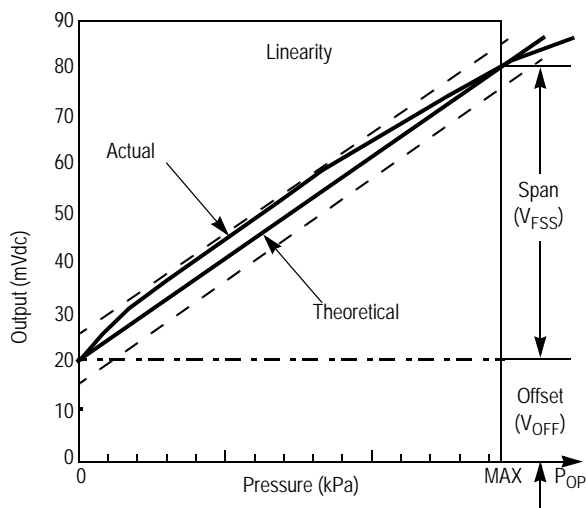

Figure 3. Linearity Specification Comparison
Linearity refers to how well a transducer's output follows the equation:  $V_{\text{out}} = V_{\text{off}} + (\text{sensitivity} \times P)$  over the operating pressure range (see Figure 3). There are two basic methods for calculating nonlinearity: (1) end point straight line fit or (2) a least squares best line fit. While a least squares fit gives the "best case" linearity error (lower numerical value), the calculations required are burdensome.